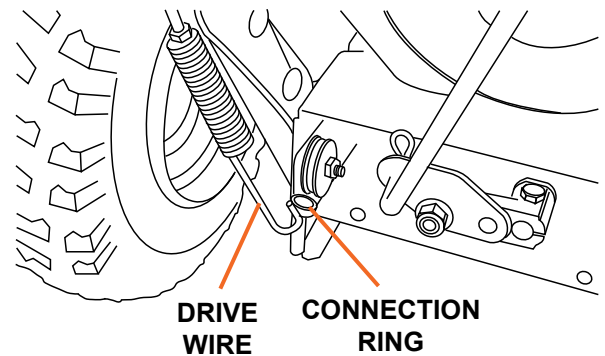

Figure 2
2. Attach the drive wire on the left side of the snow blower (see Figure 2). The spring mechanism should allow the wire to stretch for connection. The wire on the connection ring should slide through the attached pulley. Loosen the nut on the threaded screw with pliers to extend the spring wire. After connecting the wire rethread the screw as much as possible and tighten the nut. The wire should be taught when connected. (See Control Wire Adjustment, page 23).